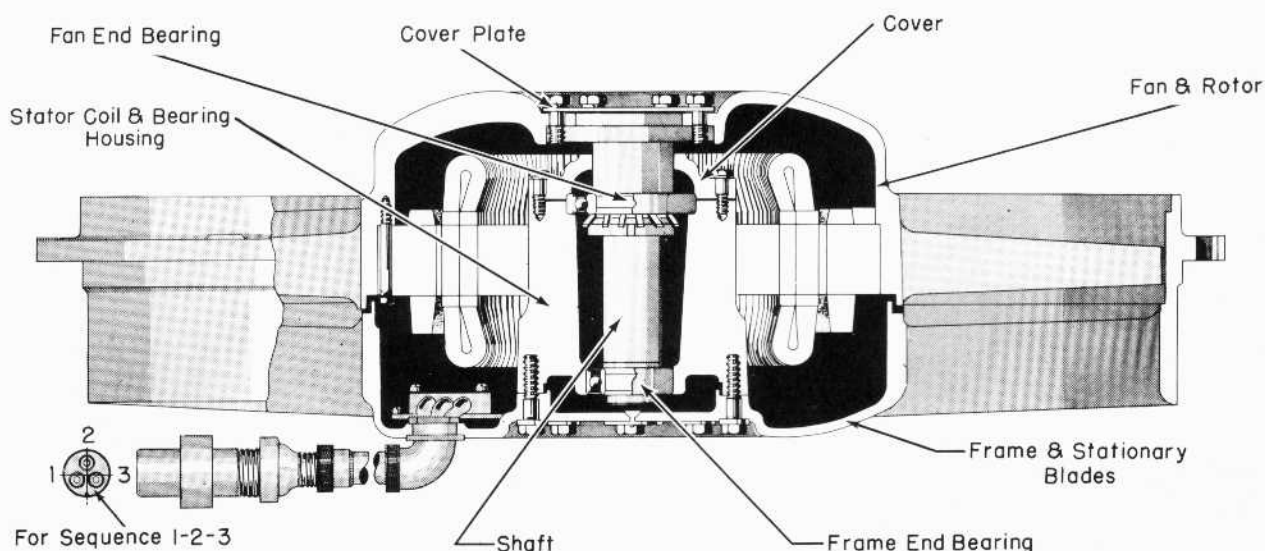

Fig. 3 - Cross-Section Of Fan Model I-666
With the cooling fan placed on a stand in its normal position, it may be disassembled by referring to Figs. 3, 4 or 5 and following the procedure outlined below:
5. On 36" fans, slide conduit elbow over leads and into outlet hole. Fasten elbow with nut previously applied over cable. For position of conduit elbow see Fig. 3.